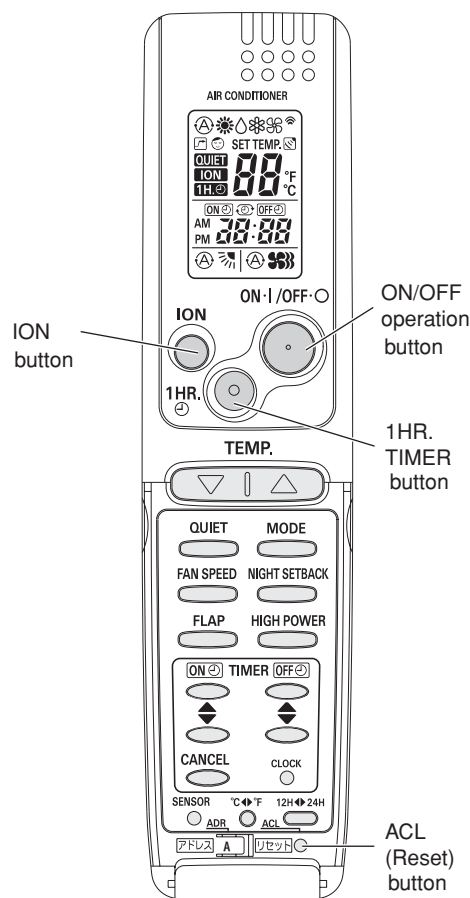

Fig. 59a
(Fig. 59a)
- (2) Start Cooling mode test run by pressing the ON/OFF operation button of the remote controller. (Fig. 59a)
- (3) Press the ON/OFF operation button of the remote controller again to stop the test run. (Fig. 59a)
- (4) Finally press the ACL (reset) button of the remote controller to release it from Test Run mode to return to normal mode. (Fig. 59a)